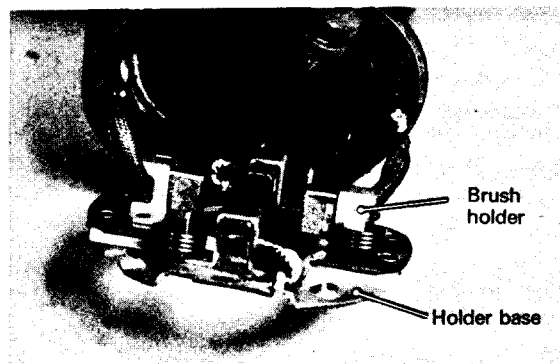

Figure 34
13. Check the brushes (Fig. 34). Replace if worn beyond the service limit. Check the brush spring tension. Replace the springs if tension is less than the service limit. Check for insulation between the positive brush holder and holder base. If poorly insulated, replace the holder assembly. Check the brush holders for proper staking.